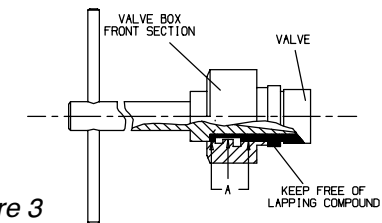

Figure 3
- d. Install the front section of the Valve Chest and Valve on the Arbor as shown in Figure 3.